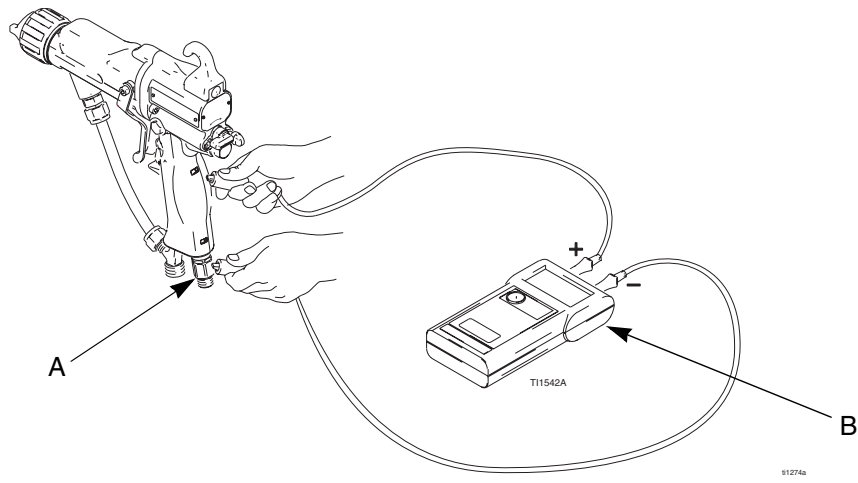

Fig. 2: Test Resistance
Measure the resistance between the air inlet fitting (A) and a point on the grip furthest from the fitting, using a 500V megohmmeter (B). See Fig. 2 on the back of this sheet. The resistance should be less than 1000 ohms.